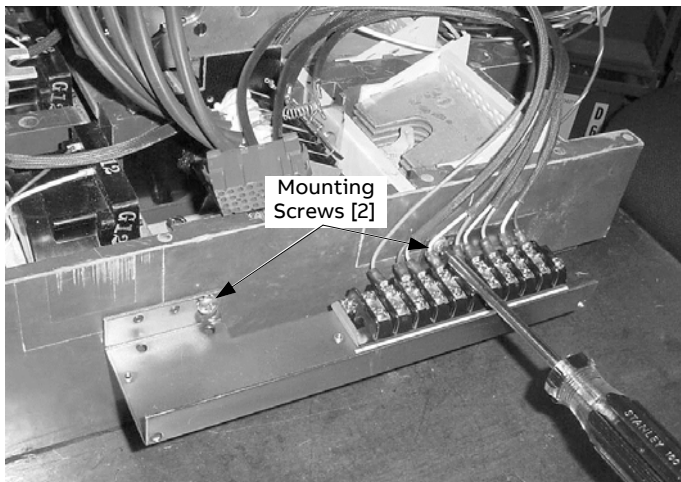
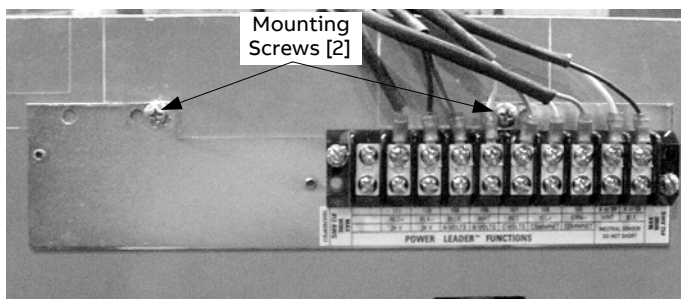

Figure 15. New terminal board [1] installed on an 800–2000 A stationary breaker.
Figure 16. New terminal board [1] installed on an 800–2000 A draw-out breaker.
- 800–2000 A breaker: Secure the bracket with the two #10-16 screws [2] supplied, as shown in Figure 15 for a stationary breaker and in Figure 16 for a draw-out installation. File two additional slots in the side of the breaker base for wires to pass through to the terminal board.